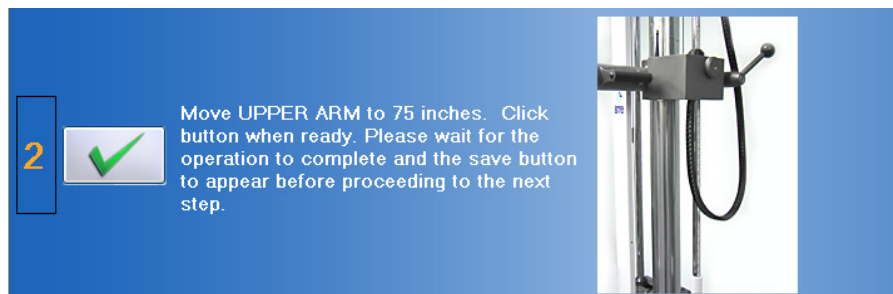

Figure 8-18. Column Upper Arm - Set the Final Height
Step 4. Click on  to set the final height (Figure 8-18).